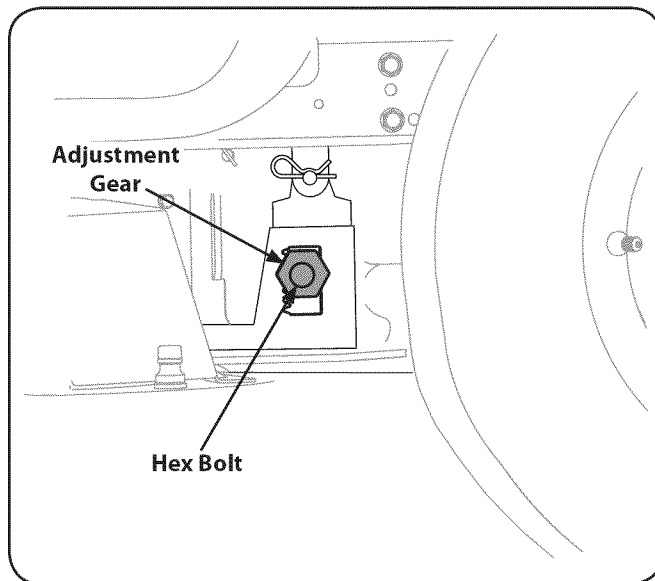

Figure 6-5
3. Loosen, but do NOT remove, the hex bolt on the front left deck hanger link. See Fig. 6-5.
4. Using a wrench, raise or lower the left side of the deck by turning the adjustment gears. See Fig. 6-5.
4. Loosen, but do NOT remove, the hex bolt on the left and right rear deck hanger brackets. See Fig. 6-5.
5. Using a wrench, raise or lower the left and right side of the deck by turning the adjustment gears. See Fig. 6-5.